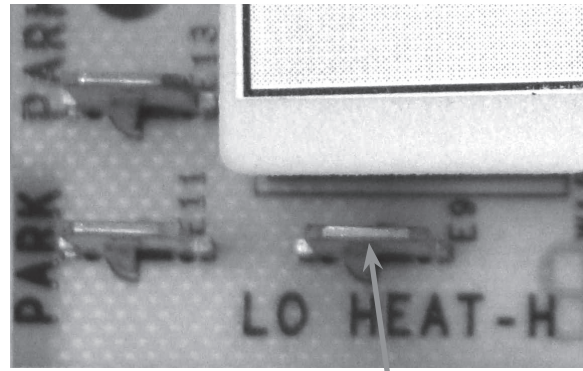

Figure 1
- **IMPORTANT:** For continuous fan speed operation, one of the unused parked motor taps must be connected to the low heat speed terminal. Failure to do this will result in the blower not energizing in the constant fan mode operation. Refer to figure 1.
- Installer must read Page (6) "Operation" and follow option switch setting for proper control operation.